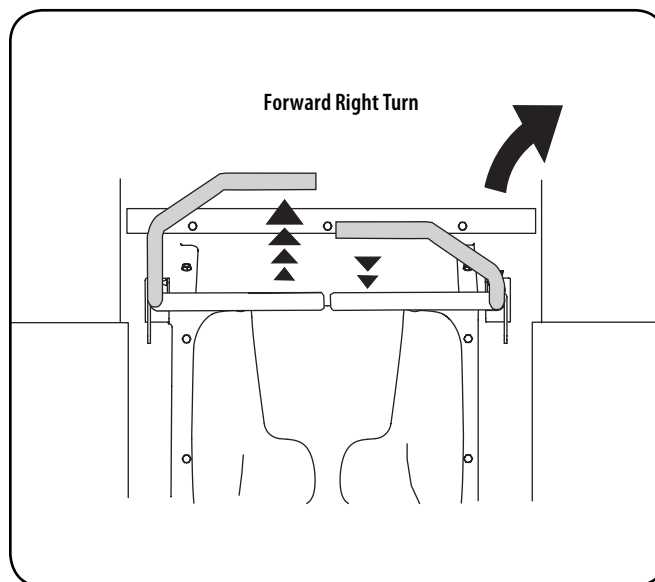

Figure 13
2. To turn to the right, move the right drive control lever rearward of the left lever. See Figure 13.